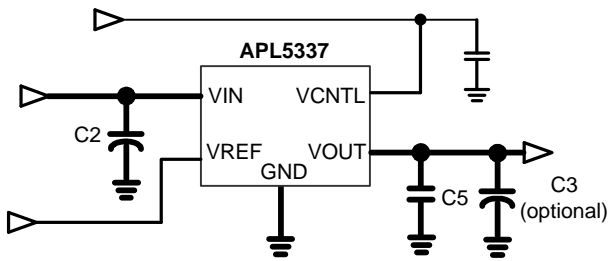

Figure 1.
Figure 1 illustrates the layout. Below is a checklist for your layout:
4. Large current paths, the bold lines in Figure 1, must have wide tracks.